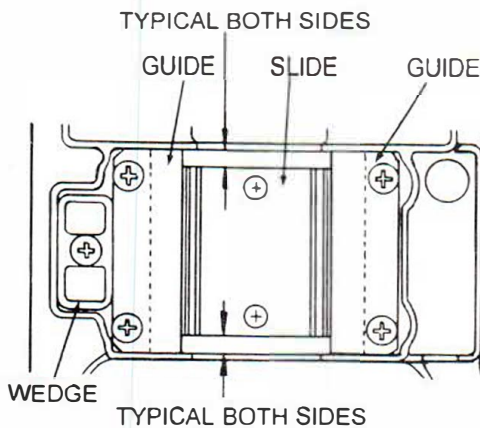
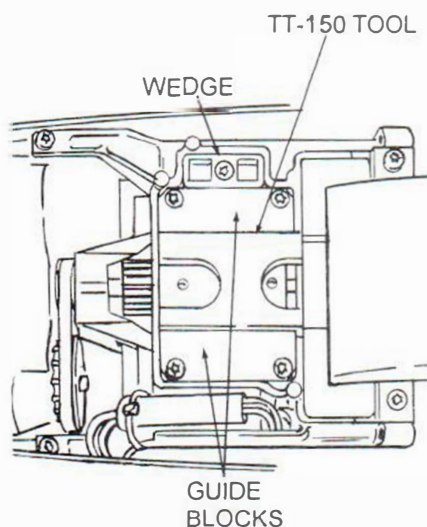

Figure 31. Assembled View of Slide Bracket Assembly
Figure 33. Use of Alignment Tool TT-150 During Slide/Guide Assembly
- B. *Refer to Figures 31 and 32.* Remove the single screw from the slide adjusting wedge.
- E. *Refer to Figures 31 and 32 as needed to assemble.* Assembly is as follows:
2. *See Figure 31.* Assemble the two roller bearing assemblies, two guide blocks and slide. Place them, as a unit, into the slide bracket casting.
3. Position slide as shown in Figure 31. Install TT-150 tool with **"FACE UP TO CENTER SLIDE"** (no front or rear orientation) facing up to align bearing assemblies and slide. See Figures 33 & 34.